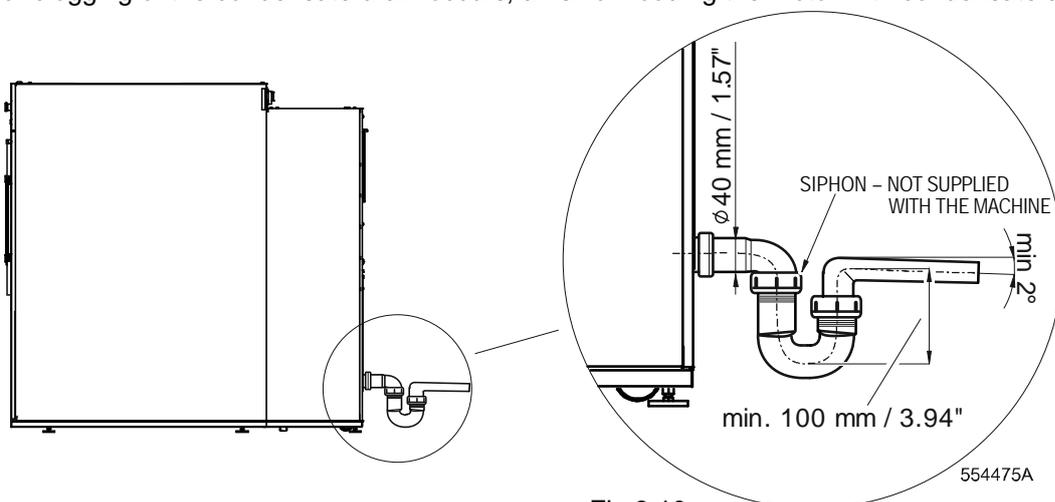

Fig.8.10.
Condensate drain in the back of the dryer – see figures 7.8. and 7.10.,pos.21. The dryer produces condensate which must be drained from the machine – see fig. 8.10. The drain pipe must be designed in a manner ensuring that the condensate formed during the machine operation is sufficiently drained off. In case that a blockage or clogging of the condensate drain occurs, a risk of flooding the motor with condensate arises.